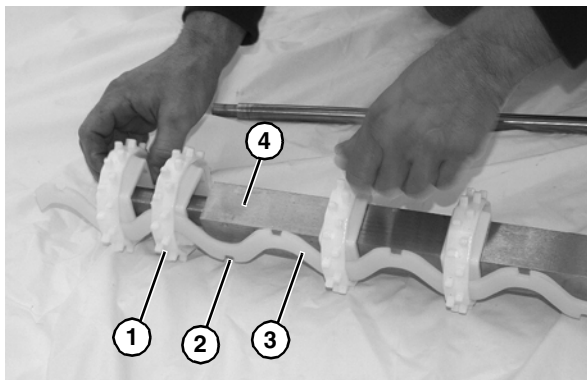

Figure 71
1. Assemble sprockets (Figure 71, item 1) to the slots (Figure 71, item 2) of alignment bar (Figure 71, item 3), and install assembly onto drive spindle (Figure 71, item 4).